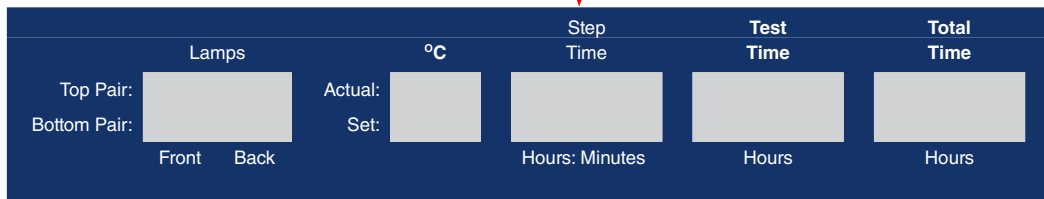

Figure 7.3b: Lamp, temperature, step time, test time, and total time display.
- Test setup parameters and real-time data on actual test conditions are displayed (Figure 7.3b).